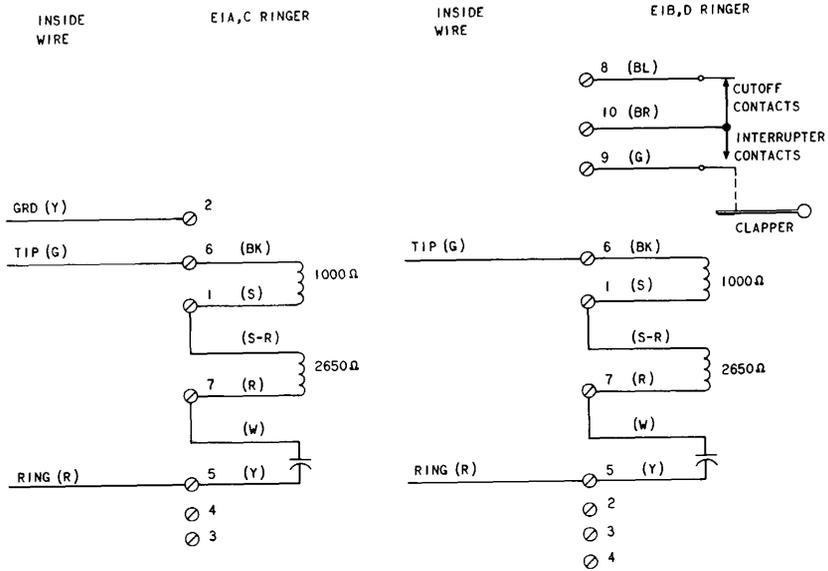

Fig. 5—E1-Type Ringer, Connections
4.01 Some typical connections for the E1-type ringer are shown in Fig. 5.